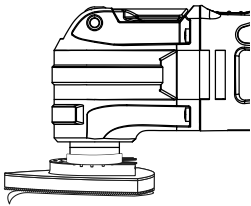

Figure 3
3. To remove the sandpaper, simply peel the sandpaper away from the hook and loop pad. (Figure 3)
2. Install the sandpaper on the sanding pad. (Figure 3)